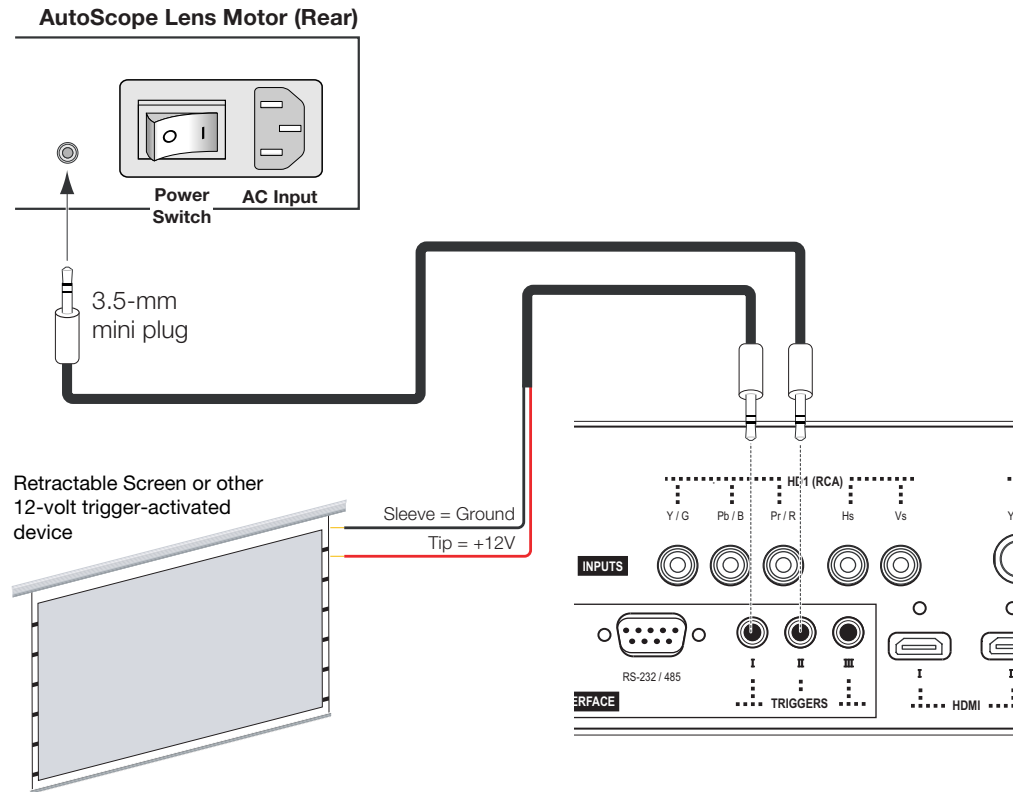

Figure 3-17. 12-volt Trigger Output Connections
If your Vision 120 is equipped with a CineWide with AutoScope system, connect the AutoScope lens motor to a 12-volt trigger output on the VHD Controller; see Figure 3-17. Similarly connect other 12-volt trigger-activated equipment (such as retractable screens or screen masks) to the other trigger outputs. For more information on using the VHD Controller triggers, refer to **Triggers** on page 62.
3. If this is an AutoScope-equipped projector, turn on the main power switch at the rear of the AutoScope lens motor. The lens motor power switch is located next to the AC input (see Figure 3-17).